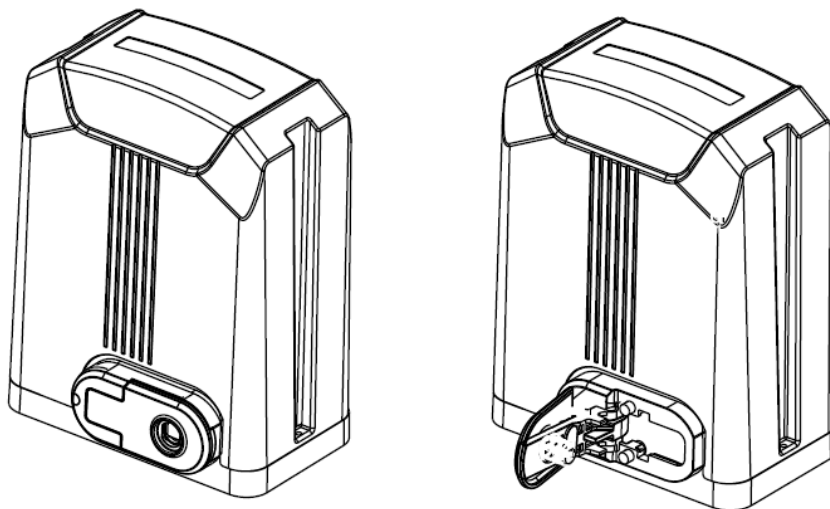

Figure 5
- Please unlock the main machine before installation, the unlock method is: remove the rubber key cover, insert the key, and open the manual release bar till it rotates by 90° as shown in Figure 5. Then turn the output gear and the gear can be rotated easily;